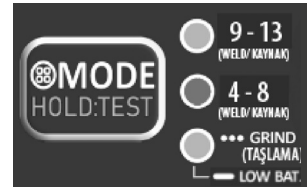

Figure 1
- You can test the darkening settings by holding down the Test button shown in Figure 1. The helmet will return to normal mode when you release the button.